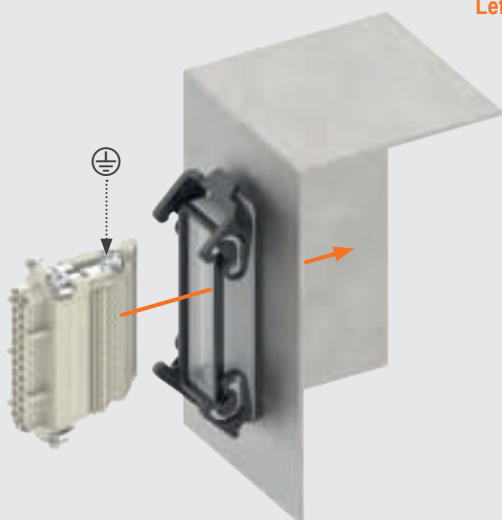

Figure 4
- > The **CT-CTSE series** is available in the versions "left" and "right" for mounting on the left (**Figure 3**) or on the right (**Figure 4**) of the control panel walls. This characteristic is determined by the position of contact "1" and the ground terminal in the upper part of the insert terminal block for both left and right mounting.